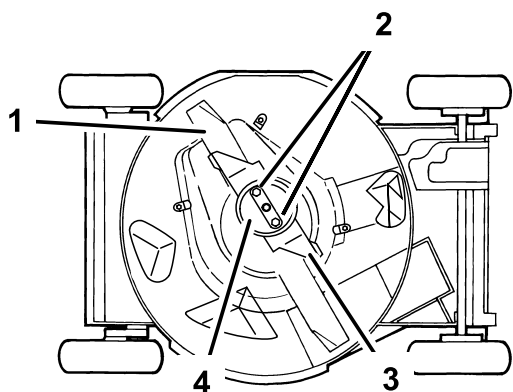

Figure 33
4. Tip the lawn mower onto its **right** side (Figure 33).
Grasp the end of the blade using a rag or a thickly padded glove. Remove the blade nuts, the anti-scalp cup, the accelerator, and the blade (Figure 33).
5. Remove 2 blade nuts, the anti-scalp cup, the accelerator, and the blade (Figure 33).